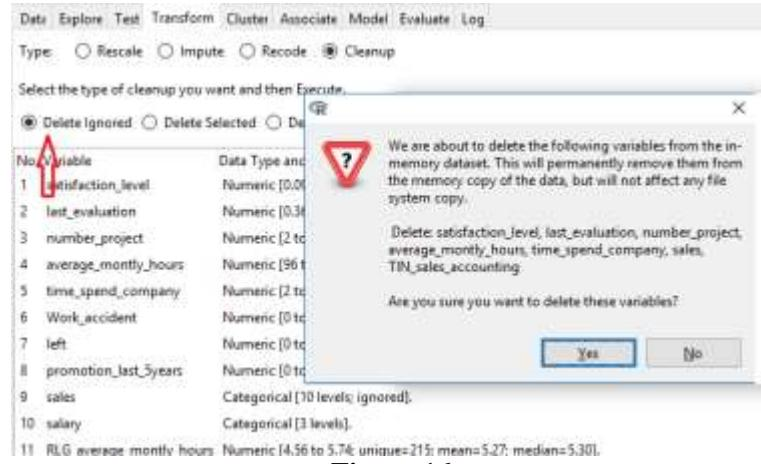

Figure 16
a. Delete Ignored: Delete automatically all columns that marked by ignoring column in the table (**Figure 16**).